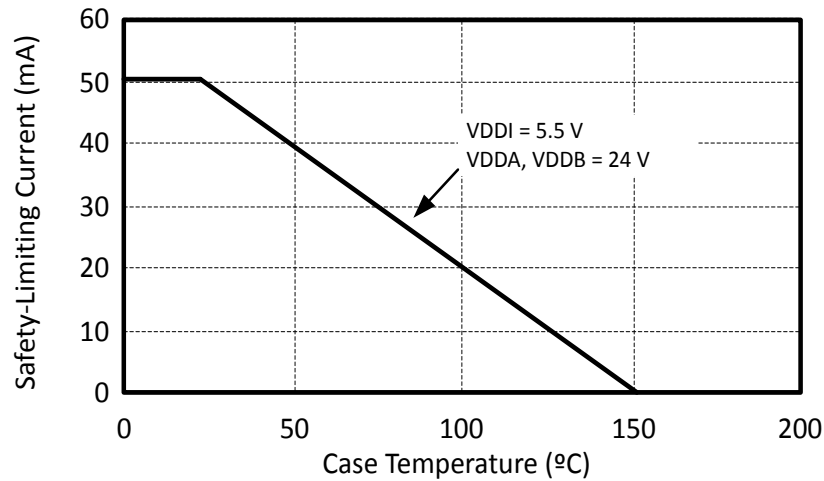
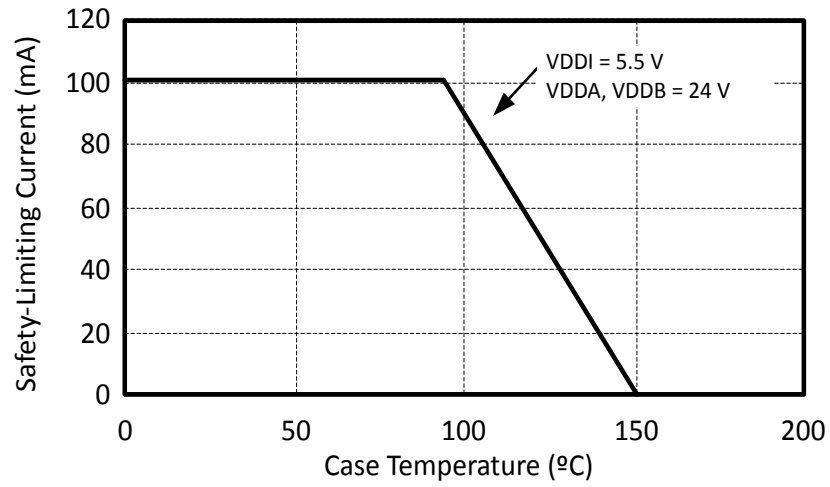

Figure 4.4. WB SOIC-16, NB SOIC-16, 14 LD LGA Thermal Derating Curve, Dependence of Safety Limiting Values with Case Temperature per DIN EN 60747-5-5
Figure 4.5. 14 LD LGA with Pad Thermal Derating Curve, Dependence of Safety Limiting Values with Case Temperature per DIN EN 60747-5-5
- Maximum value allowed in the event of a failure. Refer to the thermal derating curve in Figures [Figure 4.4 WB SOIC-16, NB SOIC-16, 14 LD LGA Thermal Derating Curve, Dependence of Safety Limiting Values with Case Temperature per DIN EN 60747-5-5 on page 29](#) and [Figure 4.5 14 LD LGA with Pad Thermal Derating Curve, Dependence of Safety Limiting Values with Case Temperature per DIN EN 60747-5-5 on page 30](#).